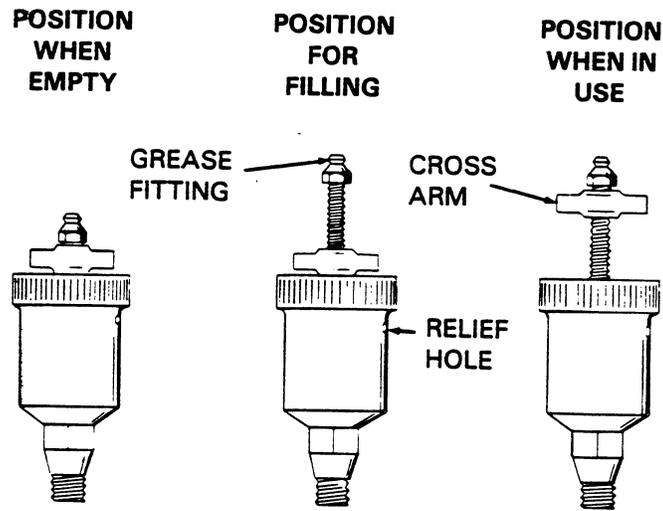

Figure 5. Automatic Lubricating Grease Cup
Fill the grease cup (11) through the grease fitting with No. 2 lithium base grease until grease escapes from the relief hole. Turn the grease cup arm counterclockwise until it is at the top of the stem; this will release the spring to apply grease to the seal (see Figure 5).